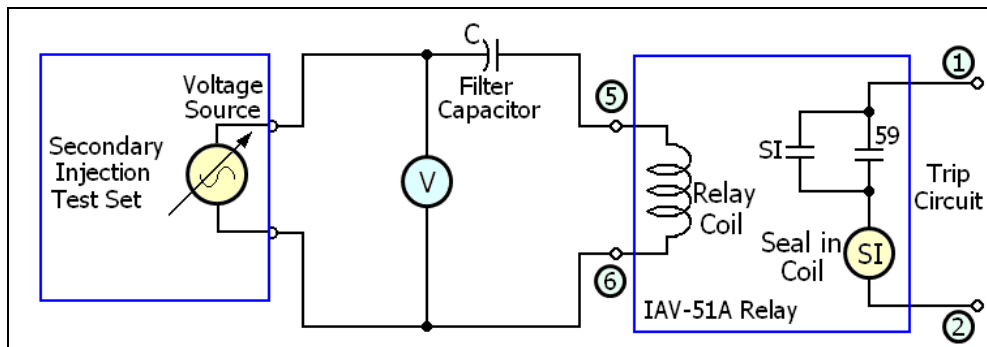

Fig. 1-2
2. Connect the circuit, as shown in Fig. 1-2.